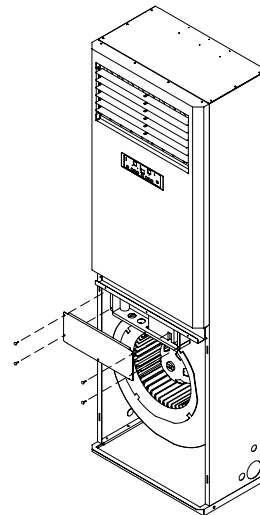

Figure 7
- 5.4 Unscrew at the electrical box to remove the cover, the electrical terminal will be placed inside the box (Figure 7).